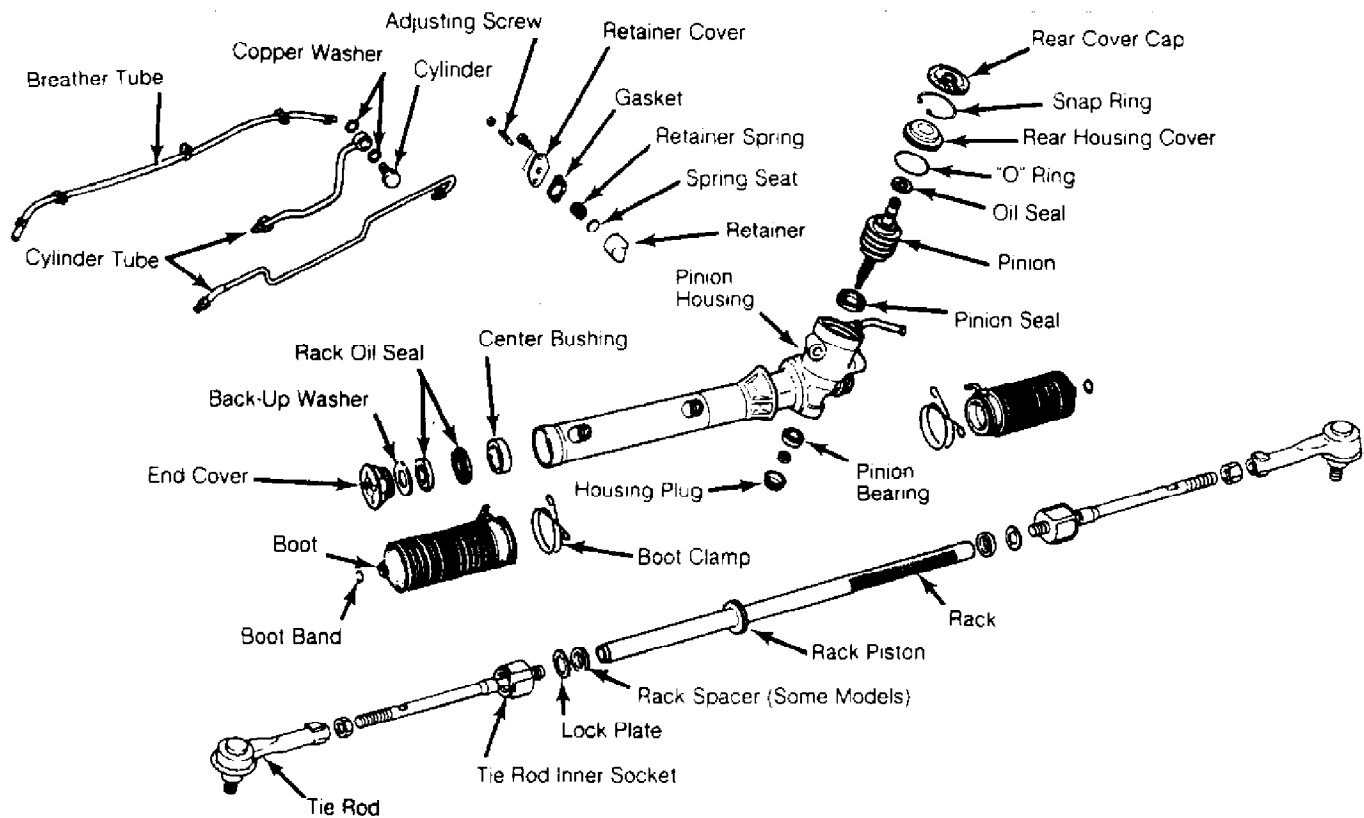

Fig. 2: Exploded View of Steering Gear (Pulsar NX & Sentra)
1) Remove breather and cylinder tubes. See Fig. 2. Loosen lock nut and remove outer tie rods. Remove boot band and boot clamp. Bend over lock plate at tie rod inner socket.
1) Lubricate rack oil seal and center bushing with ATF and install on rack. DO NOT damage seal with rack teeth during installation. Lubricate rack teeth with grease. Install rack, oil seal and center bushing in cylinder. See Fig. 2.